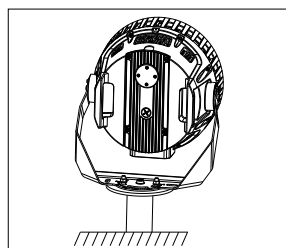

Figure 8
- Place the product on the disc holder and secure it with screws. Ensure the screws are not overly tightened (Figure 8).